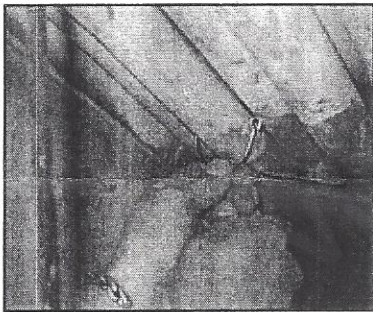

Figure 16
- Place the wire loops over the heat exchanger tubes by starting underneath and then swing it over the top of the tube as shown in **Figures 16 & 17**.